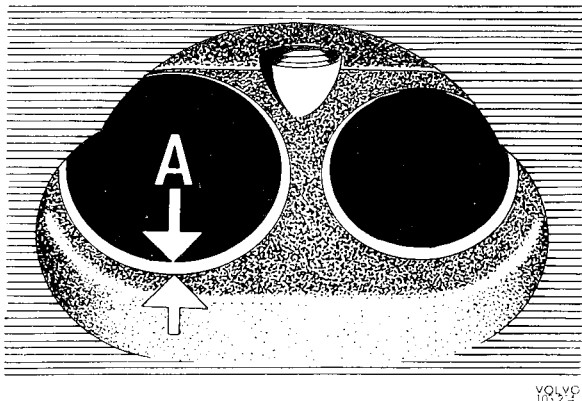

Fig. 2-17. Valve seat width A=2 mm (0.08")
2. Grind the valve seats. Use an electrically driven grinder or a hand milling cutter. A pilot spindle must be carefully fitted before work is started and any worn guides must be replaced with new ones. The seat should be ground until a good sealing surface is obtained. The angle is 45° and the width of the sealing surface is approx. 2 mm (0.08"), see "A", Fig. 2-17. If the sealing surface is too wide after grinding, it can be reduced by using a 70° grinding stone from the inside and a 20° grinding stone from the outside.